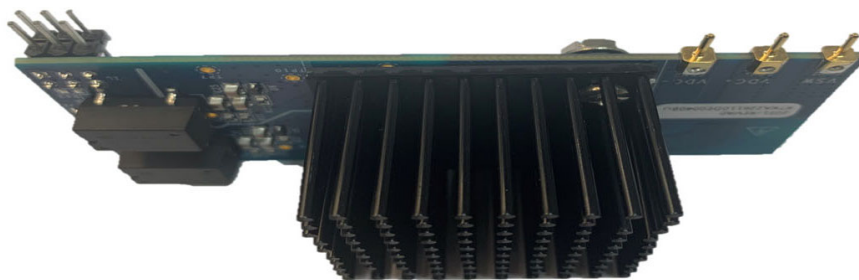

Figure 17. Daughter Board with Heatsink Attached
- Two optional mounting holes as shown in Figure 17 are provided for mounting customized heatsink using screws.